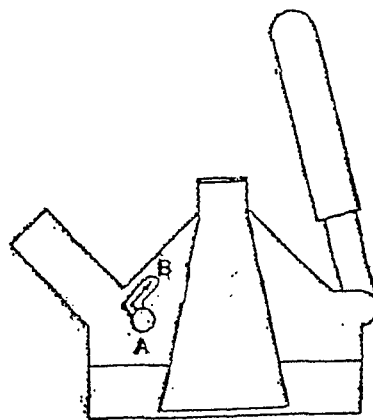

Fig 2 Locked
3. Finally lock the RIPS seat fitting into the track by pushing the red handle on the Millennium Fitting forward to its furthest point (see Fig 2). The red safety lock nut will automatically drop into position A in the slot. The RIPS unit is now fixed and ready for use.